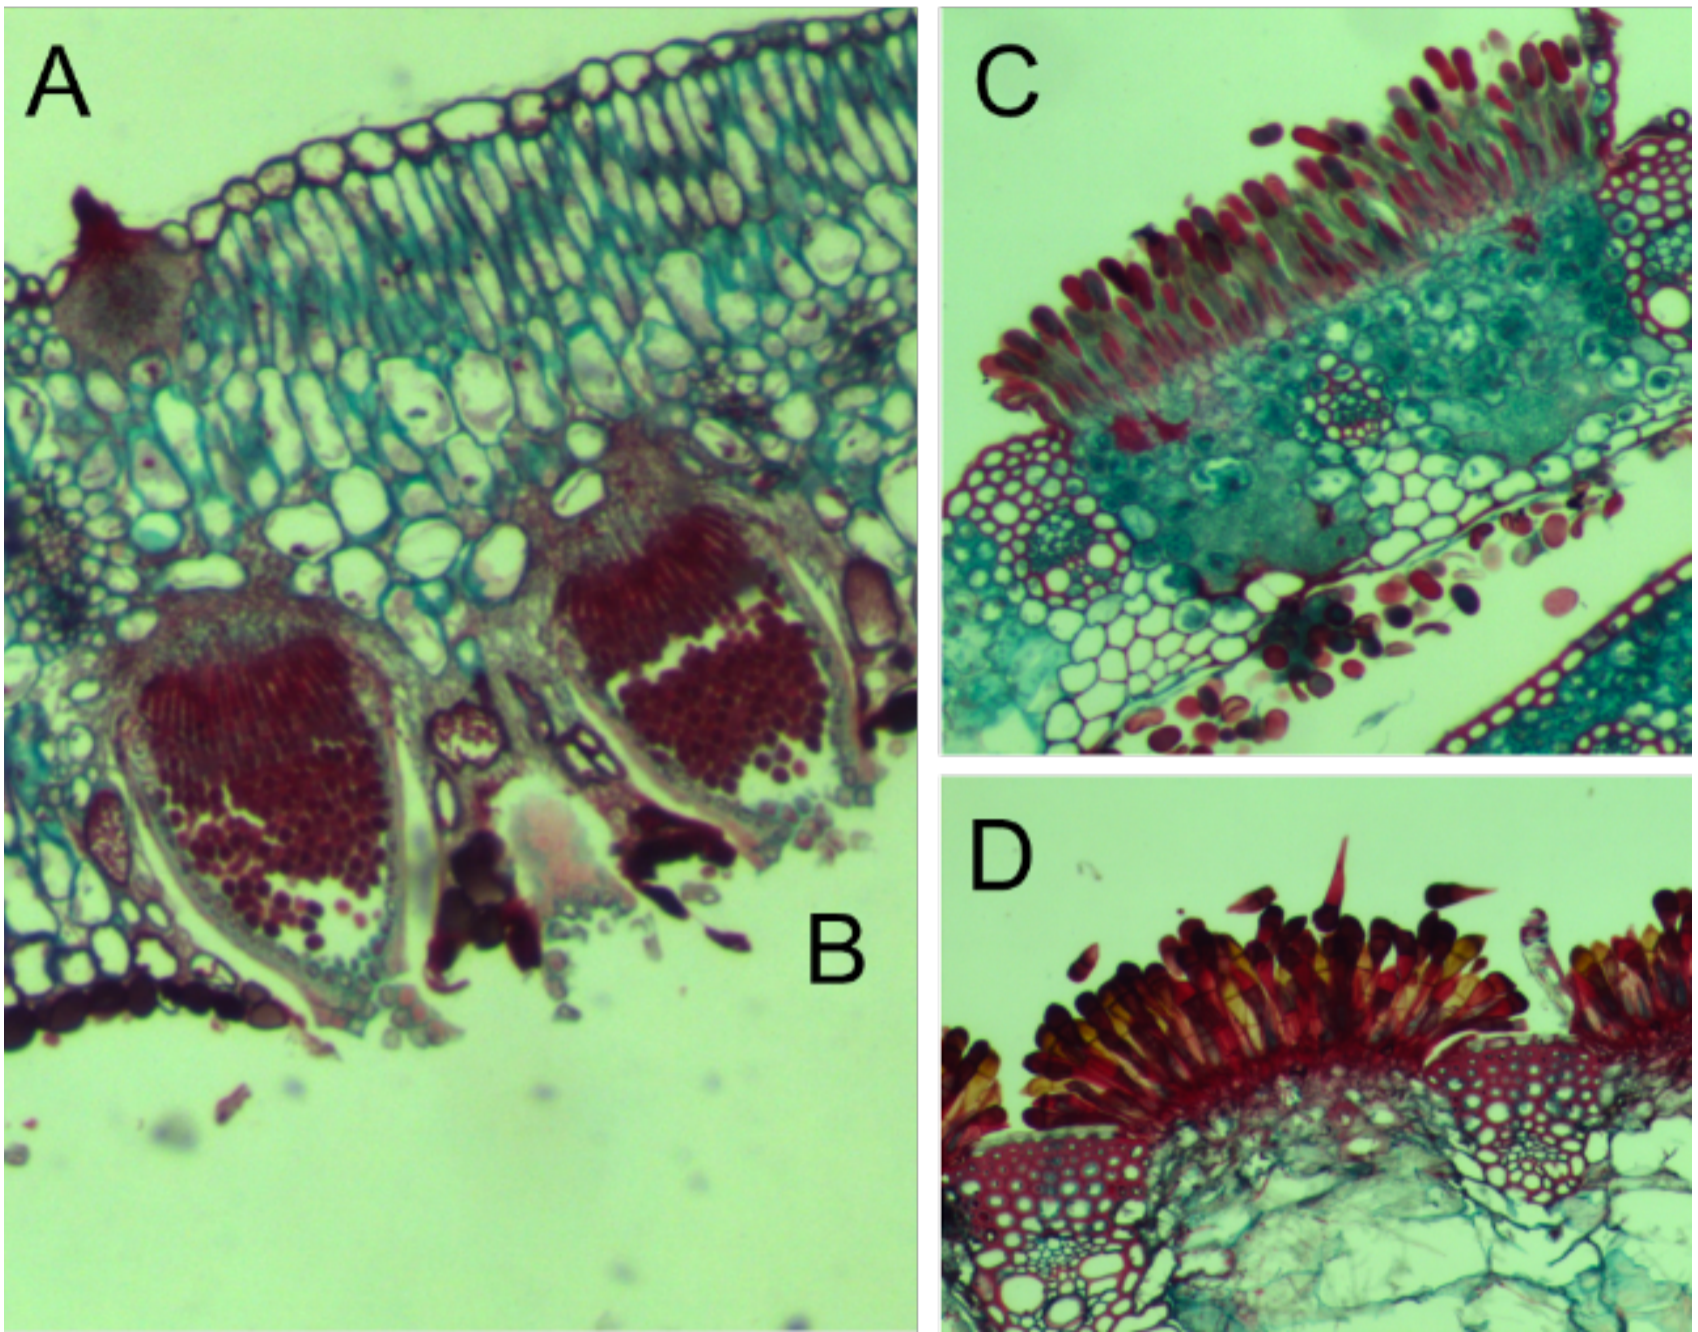

Figure 5.3 Image by Author
3. Take the following steps depicted in Figure 5.3 to prepare a microscope slide with the mushroom's gills. Step #1, split the mushroom in half. Step #2, cut a thin slice of the gills, the thinner, the better. **IMPORTANT:** Although on the photo it shows the blade cutting towards the thump, please cut toward the outside. Step #3 is to place the thin slice of the gill on a microscope slide.